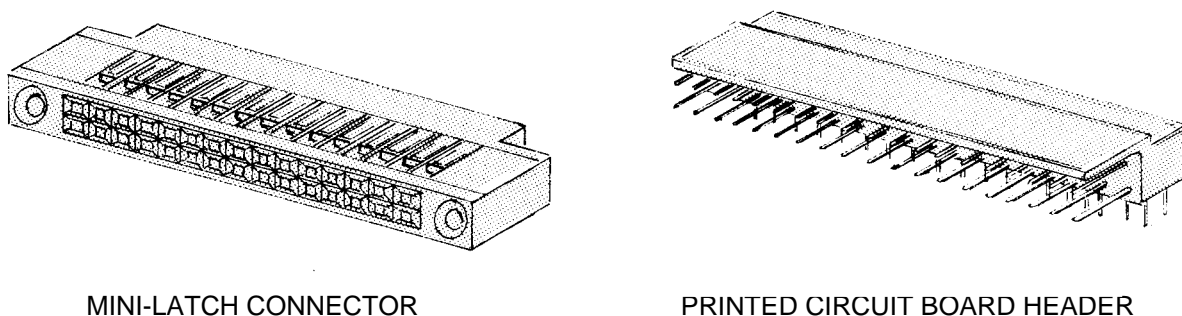

Figure 2 - Berg Printed Circuit Boards Connectors and Headers
- 4.1.3 BERG mini-latch connectors as specified on the engineering drawing or EDA wiring list. Refer to Figure 2 for a general description of the BERG mini-latch connector.
- 4.1.4 BERG printed circuit board headers as specified on the engineering drawing or EDA wiring list. Refer to Figure 2 for a general description of the BERG printed circuit board header.